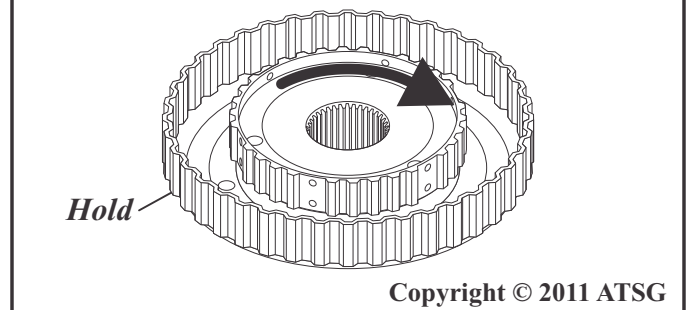

Figure 118
8. Check for proper Sprag rotation. The Second Coast Brake (B1) Hub, Sprag Inner Race must ***Freewheel Clockwise and Lock Counter-Clockwise*** as indicated in Figure 118.